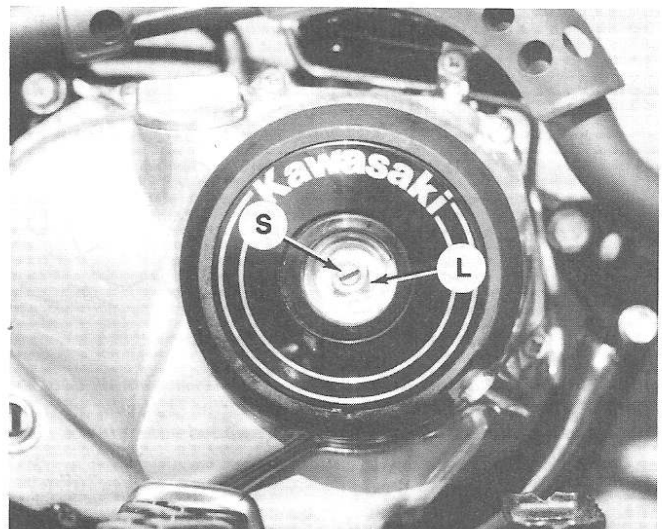

Fig. K1-9—View showing location of clutch adjusting screw (S). Refer to text for adjustment.
To adjust the clutch, remove the rubber cap in the right side cover. Loosen locknut (L—Fig. K1-9). Turn screw (S) clockwise until it is easy to turn, then turn the screw counterclockwise until resistance to turning is felt. Hold screw in position and tighten locknut (L). Check clutch adjustment by shifting gears with engine idling. Engine should not die when changing gears.